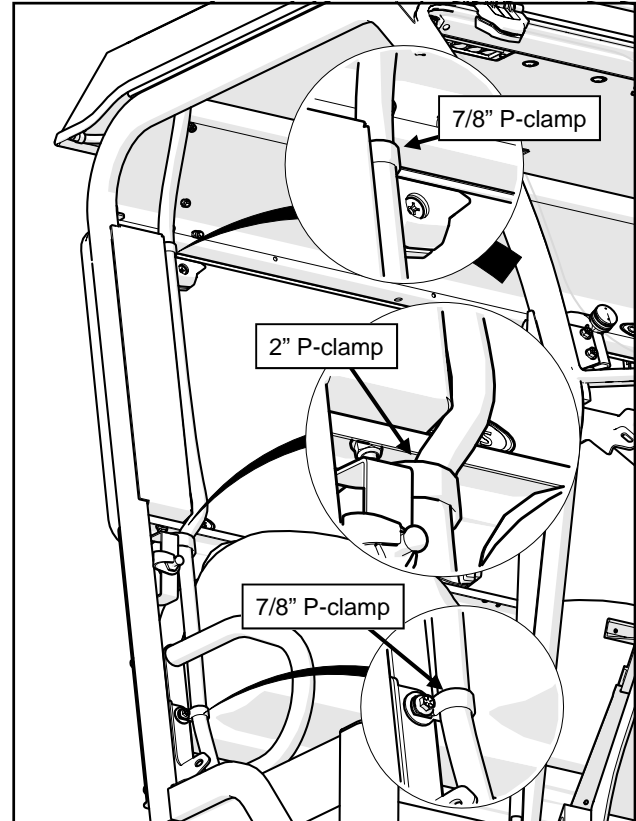

Fig. 2.23 (Secure Power Harness to Cab)
- 2.23** Attach the power supply harness to the passenger's side cab frame, through the existing hole in the frame, using a 7/8" P-clamp, 1/4-20 bolt and nut. Figure 2.23.